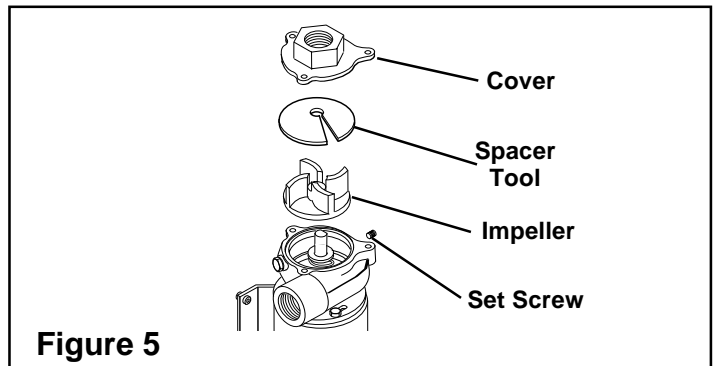

Figure 5
5. Place the Spacer Tool (provided with the Seal Kit), over the Impeller as shown (See Figure 5).
6. Position the Cover in place on the Housing, and while pressing down on the Cover, tighten the Set Screw; then, install the Plug that was removed in Step 2 during disassembly (See Figure 5).